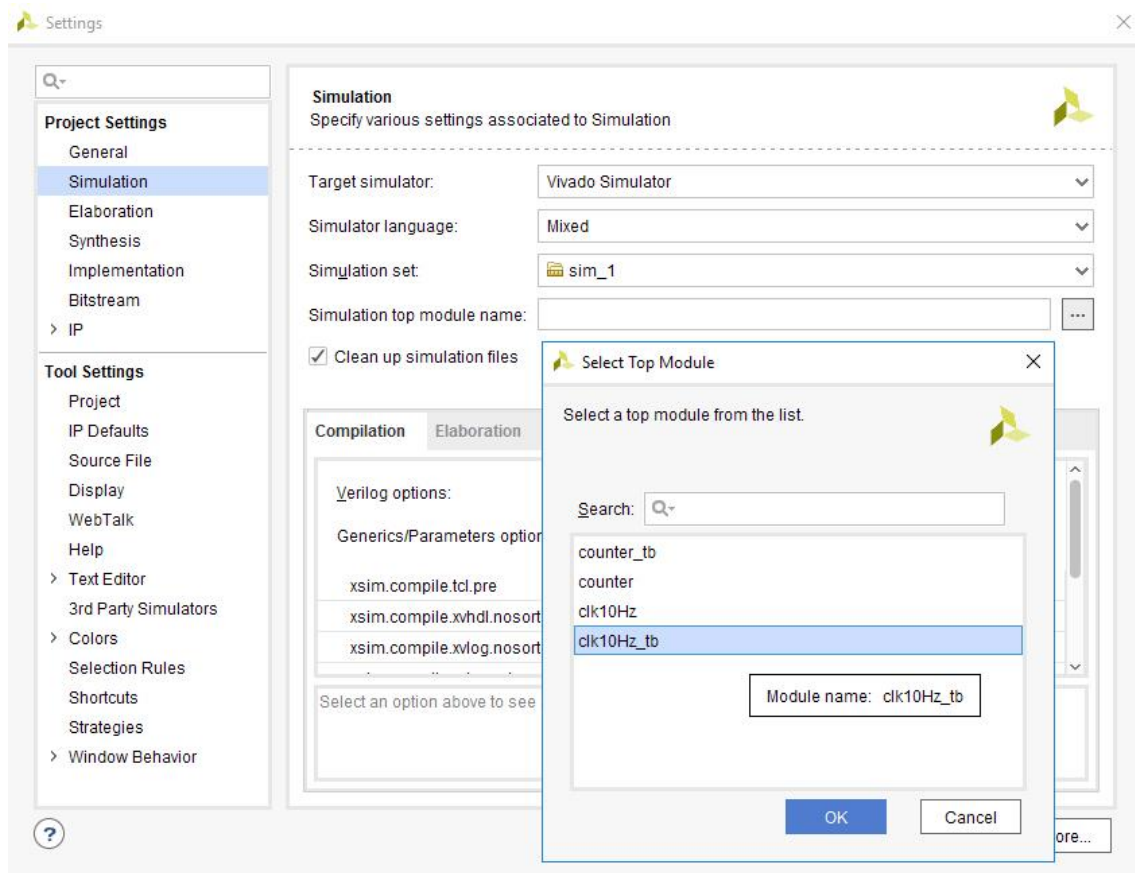

Figure 40
3. Check if the **Vivado Simulator** is selected in the **Target simulator** field and change the **Simulation top module name:** to **clk10Hz_tb** by clicking on the ... icon at the right end of this parameter line (Figure 40)